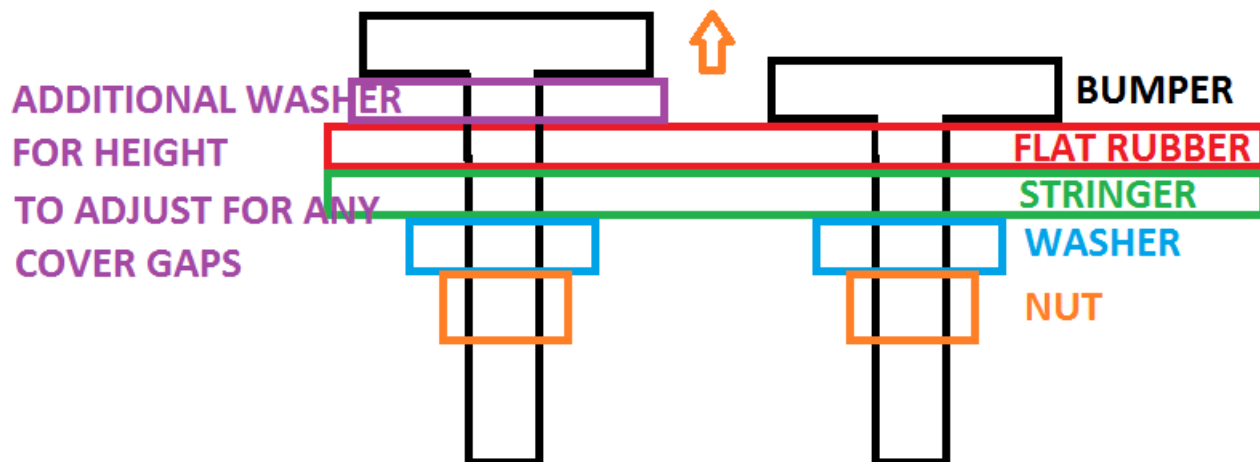

Figure 6 Illustration showing the "stack up" of rubber bumper, flat rubber strip, frame stringer, washer and nut.
4. Refer to Figure 6. Place the rubber bumper over top of the existing flat rubber, install washer and nut under the channel rail to secure bumper.